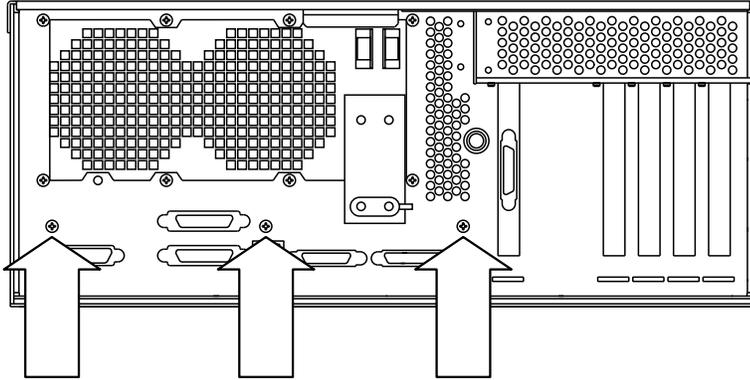

FIGURE 10-10 Removing and Replacing the Motherboard (Part 1 of 2)
4. **Using a No.2 Phillips-head screwdriver, tighten the three captive screws that secure the motherboard to the rear of the chassis panel (See FIGURE 10-10 on page 96) starting with the centre screw.**